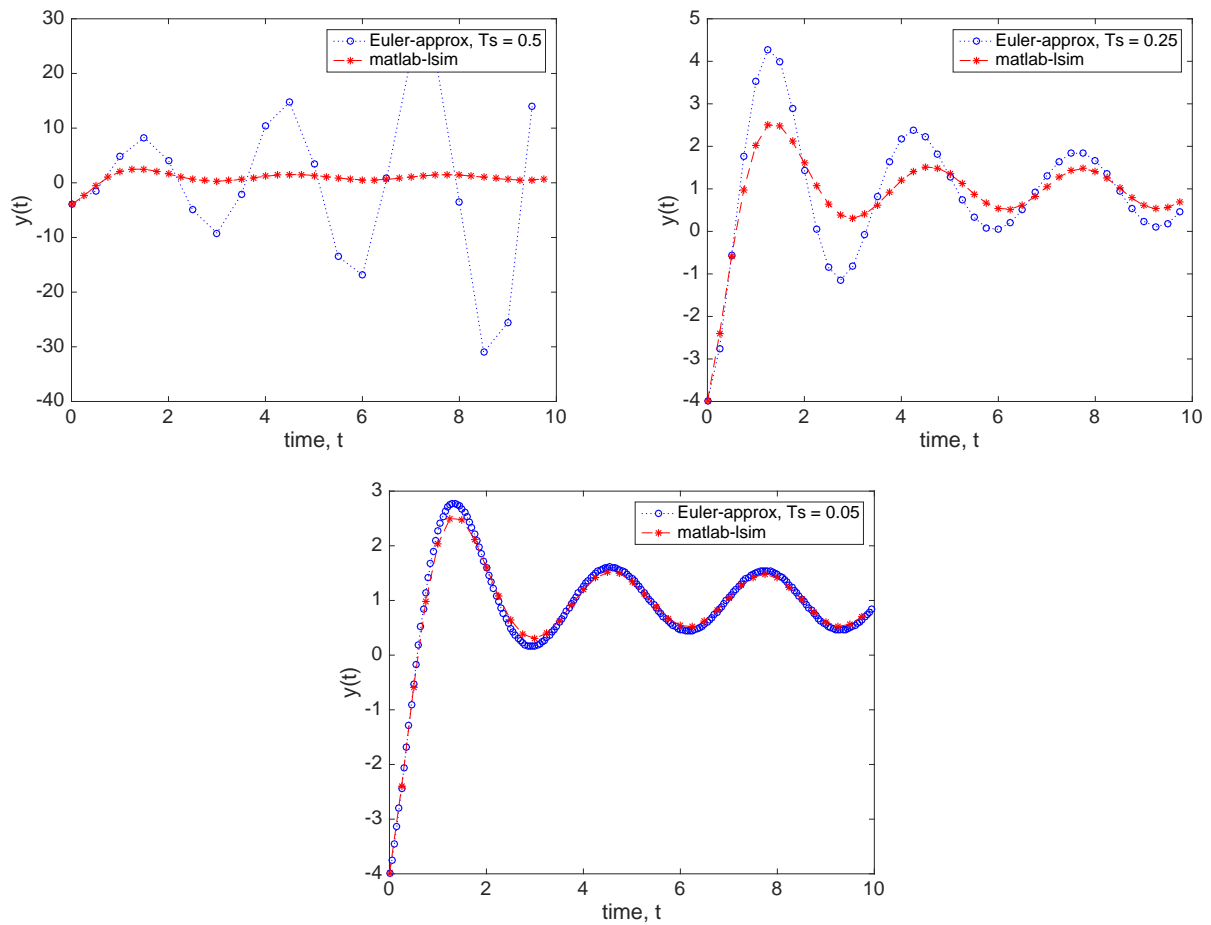

Figure 1: Comparison of numerical ODE solution from MATLAB[®]'s `lsim` and first order Euler approximation with various sampling periods.
2. Now write a MATLAB[®] script to compute the solution approximately by using either (i) a first-order Euler forward-difference method¹, or (ii) discretizing the ODE using the continuous-to-discrete conversion covered in class. Either method is fine; they will produce similar results. Plot the solution in the same figure as the solution you get in step 1. Repeat this for three different sampling periods, $T_s = 0.5$, $T_s = 0.25$ and $T_s = 0.05$. Do all of these “solutions” look right? (Ans: The solution plots you should get are shown in Figure 1.)